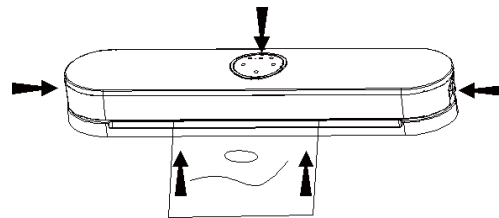

Figure 4
- 7.After the vacuum packaging is completed, press the release buttons on both sides at the same time to open the upper cover and take out the vacuum packaging bag, as shown in Figure 4.